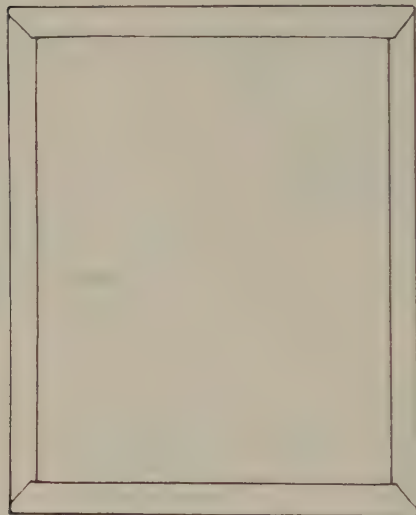

FIG. 84—CALENDAR BOARD COVERED WITH PAPER FOR FACE SIDE
5. Glue-off paper for covering, lay on board, turn in four edges—being careful to “nick-in” corners—press. (Fig. 84.)